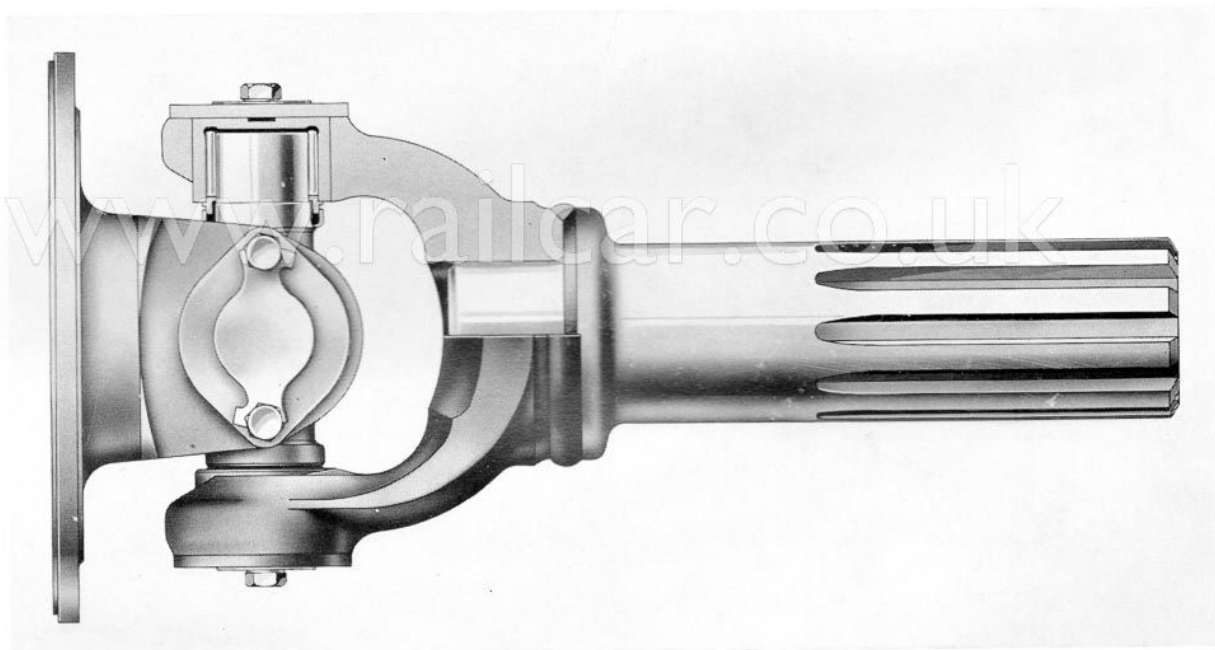

FIG. 3. SPLINED SHAFT ASSEMBLY
The splined shaft assembly (Fig. 3) is made up of a splined shaft (9) integral with a universal joint.
Universal Joints—Fig. 3: